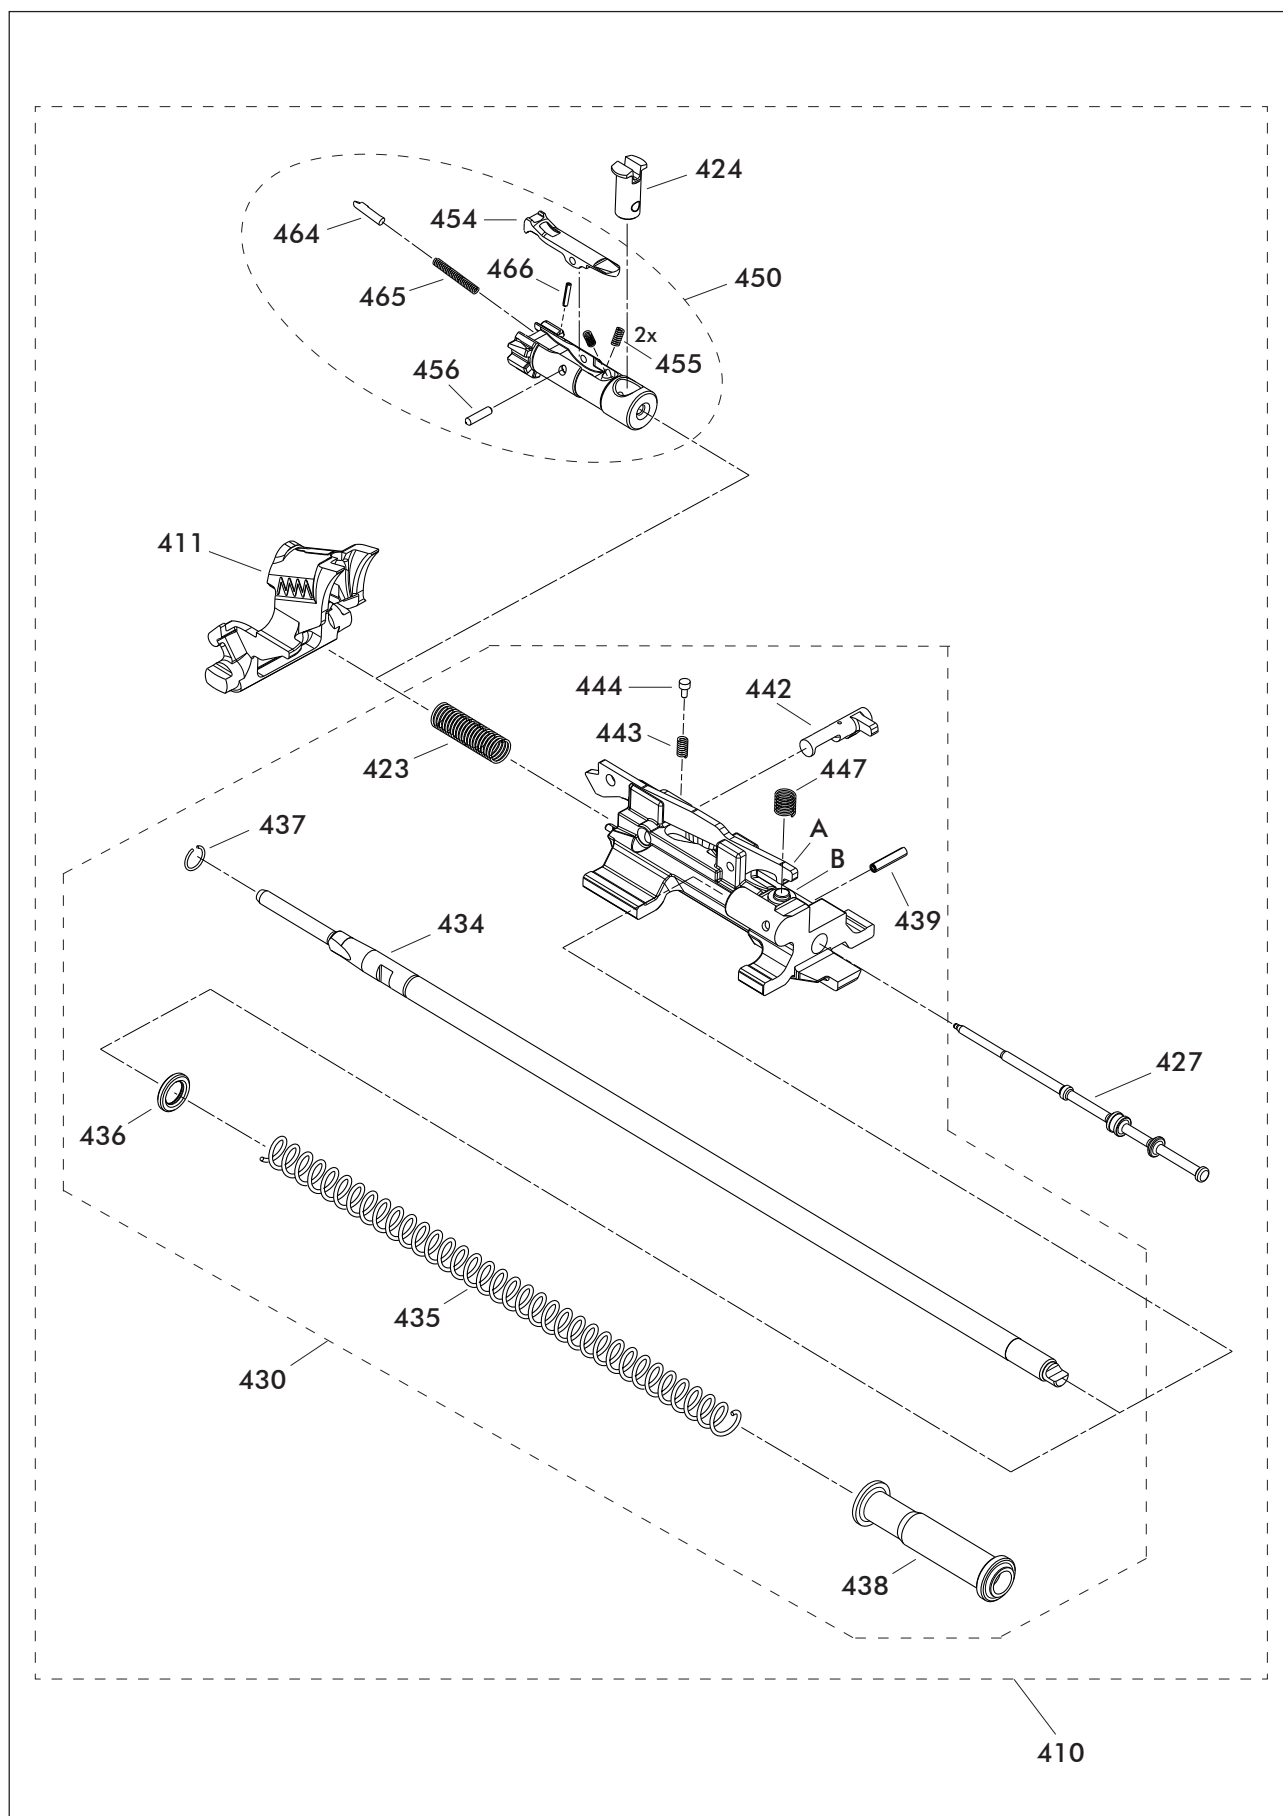

Fig. 2.e - Moving parts assembly (410)
The handguard/handguard tri-rail (280)/(280/1) is locked onto the receiver assembly (201 - see figure 2.c) by the barrel support assembly (110 - see figure 2.c).
(a) List of parts (Fig. 2.e)